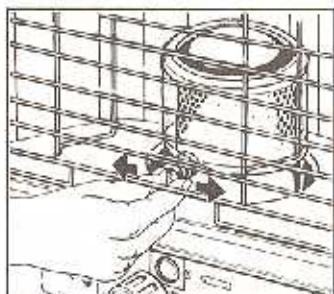

Fig. 9
(4) Use Burner Handle to seat the Burner for 2 to 3 times to make sure that Burner is properly seated after lighting (see POSITIONING OF BURNER and Fig.9).
(5) When re-ignition is performed immediately after extinguishing, crude fuel can cause an intense smell. Wait 5 minutes for cooling the Burner before re-ignition.